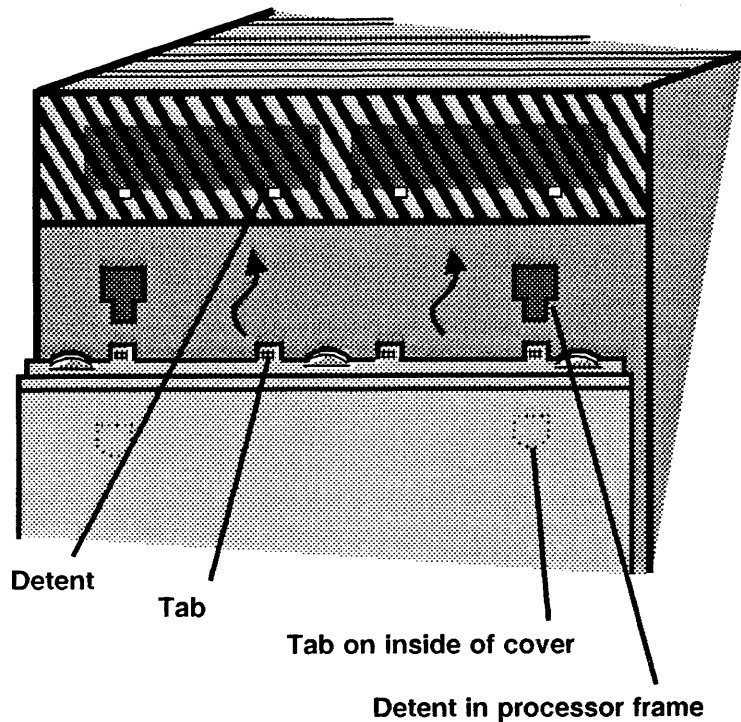

Figure 5. Side Cover Installation
- b. Mate the four tabs on the upper edge of the side cover with the four detents in the top cover. (Figure 5)
- e. (If the top cover has been removed in order to install the side cover, place it on the processor and allow it to settle into place.) Ensure that the top cover is seated correctly by pressing down firmly along the top edges until the cover detents snap securely onto the side cover tabs (Figure 5).
1. Place the top cover on the processor and allow it to settle in place. Press down firmly along the top edges until the cover detents snap securely onto the side cover tabs (Figure 5).